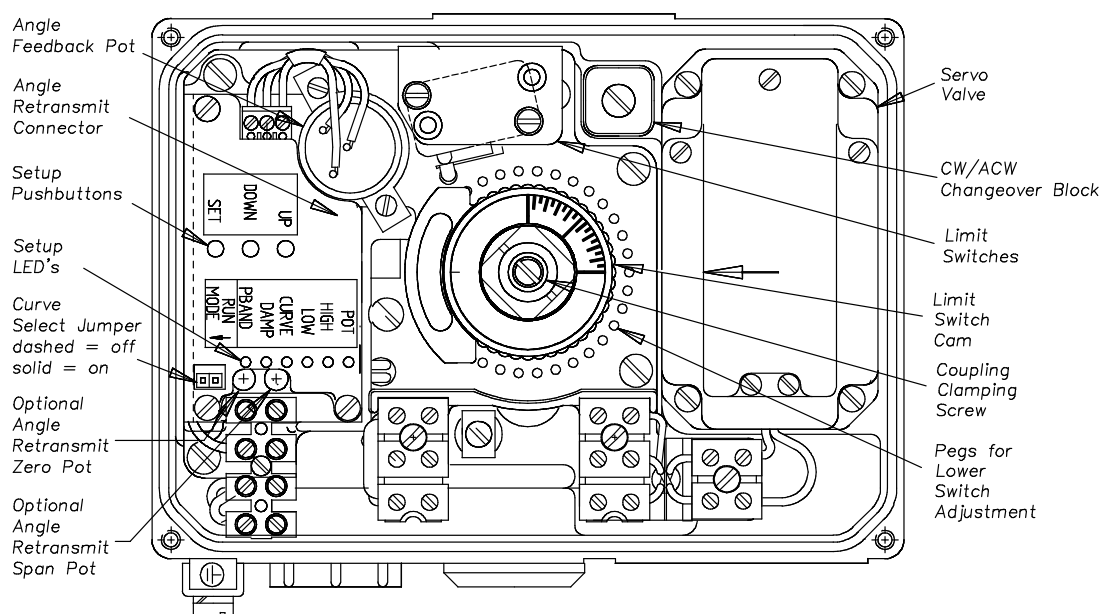

FIGURE 6a. DIGITAL EL CONTROL ADJUSTMENTS. OPEN BOX, TOP VIEW – MOULDED COUPLING.
4.2.1 Moulded coupling cams, shown in figure 6a, can be adjusted using light pressure to rotate in 1 degree increments. Adjust the lower cam first using a screwdriver to lever against special pegs moulded into the carrier plate or use finger pressure. Secondly move the upper cam using finger pressure only. Graduated marks on the top of the coupling are provided to gauge the position of the actuator with the lid removed. This can be lined up with an arrow marked on the servo valve lid.